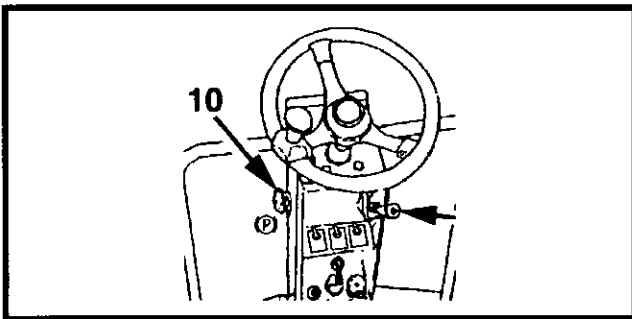

Figure 4-19 Parking Brake Switch
3. To ensure no machine movement after stopping, apply the parking brake switch (P), (10, Figure 4-19).